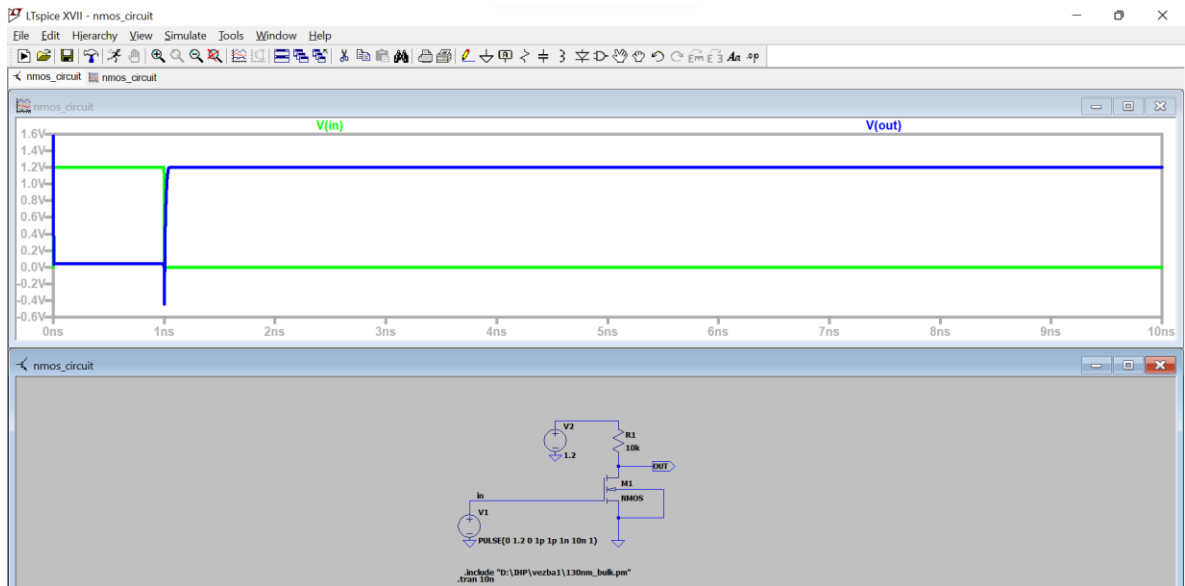

Fig. 8. Simulation results
10. We will analyze the simulation results (Fig. 8). When the input signal *in* is high (logic 1), the output voltage of the circuit is low voltage level (logic 0) and vice versa, therefore, this circuit is an NMOS inverter. When there is a logic 1 at the input, the transistor is in *on* state, it acts as a closed switch, so that GND voltage appears at the output. When the input is logic 0, the transistor is in the *off* state, so the output voltage VDD appears via the pull-up resistor R1.